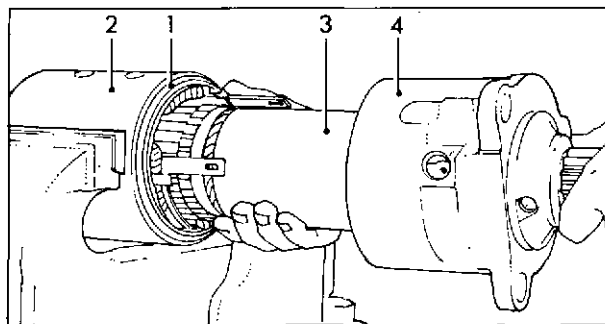

Fig. 25 Replacing armature into yoke
1. Secure the yoke in a vice as shown in fig. 25 and place a new sealing ring (1) in position. Insert the armature (3) while taking care to avoid damage to the windings or commutator. Ensure that the dowel in the end of the yoke engages with the hole in the drive end shield (4). If necessary tap the shield into position with a soft faced mallet.